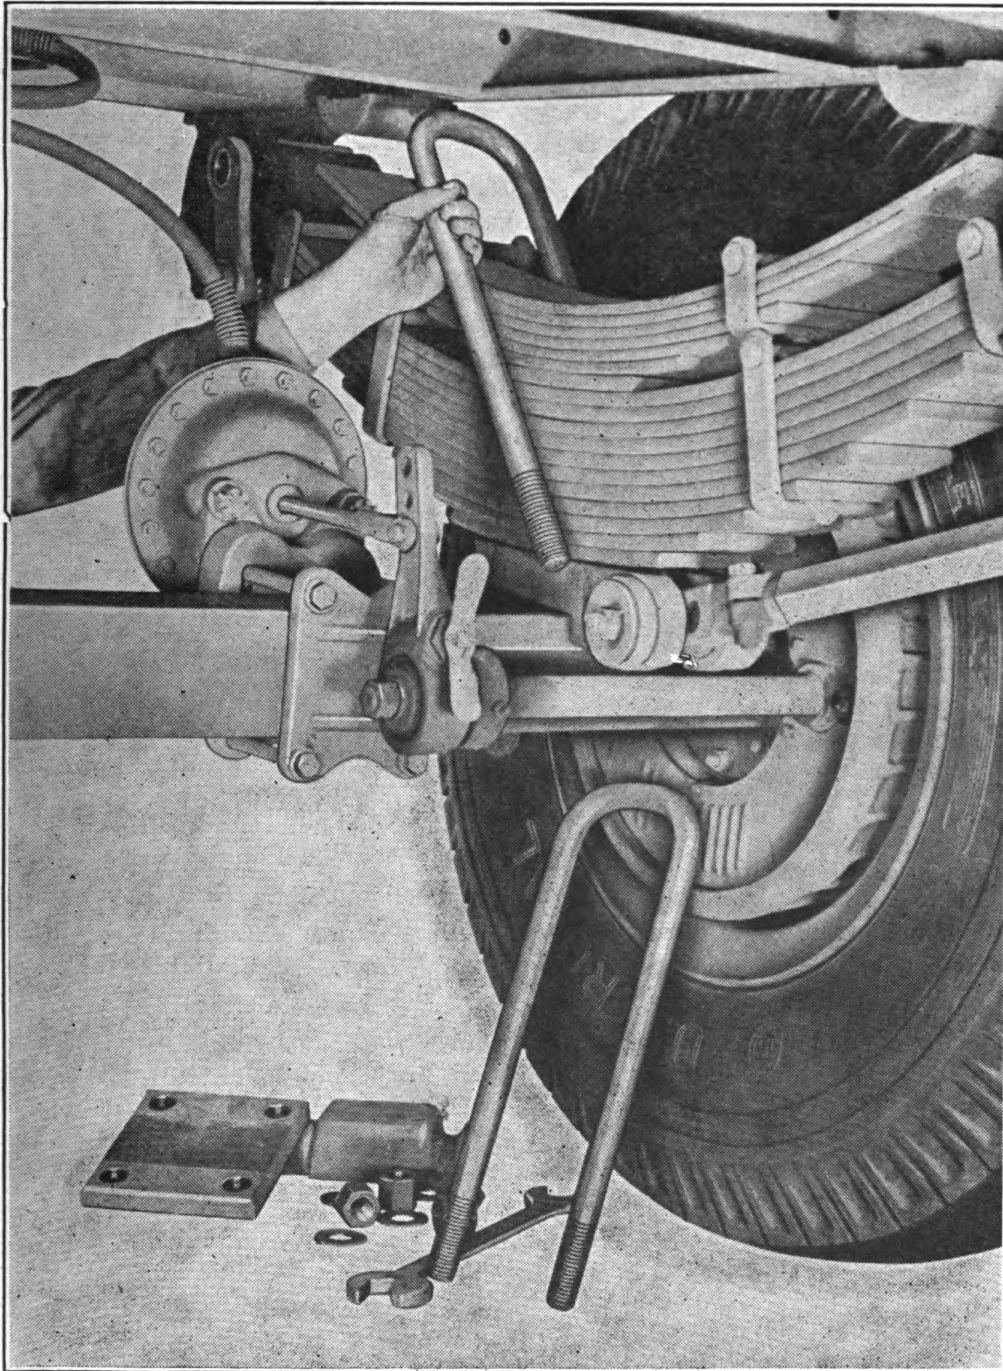

FIGURE 73. SPRING REMOVAL—DOLLY, STEP 2.
f. Pull U-bolts up and towards rear of trailer (Fig. 73).